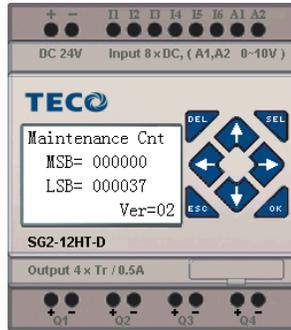

Figure 6: Maintenance Counter Display Page
In the Figure 6, the MSB shows the factory default setting of 000000. If the setting were set to 000010 and the maintenance counter reached 10 million cycles, the maintenance alarm output (Q4) will be activated (ON) as indicated by the Alarms = ON/OFF line in the display.